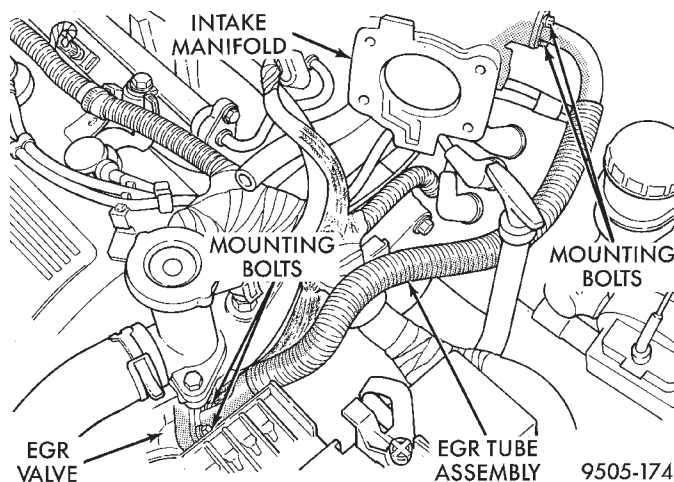

**Fig. 105 EGR Tube Attachment To Intake Manifold And EGR Valve**
(6) Remove the EGR tube (Fig. 105) from the intake manifold and EGR valve.
(14) Install the EGR tube with **NEW** gaskets on the intake manifold and EGR valve (Fig. 105). Install the 4 mounting bolts and tighten to a torque of 11 N·m (95 in. lbs.).